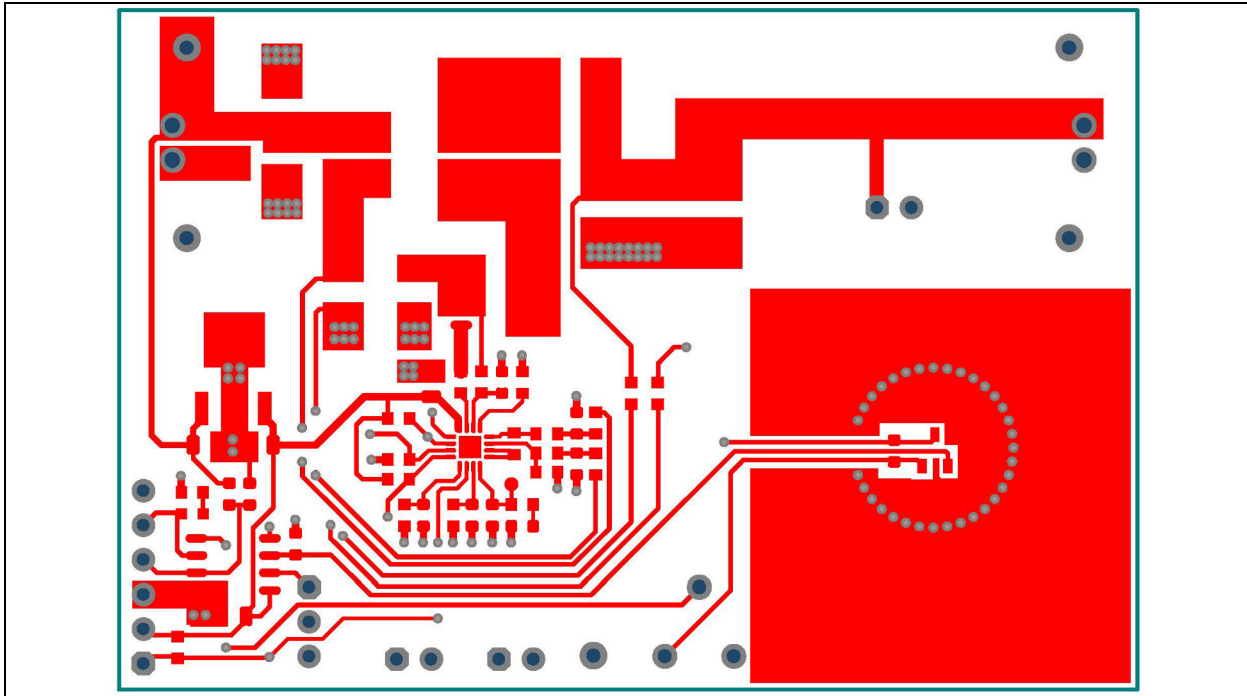
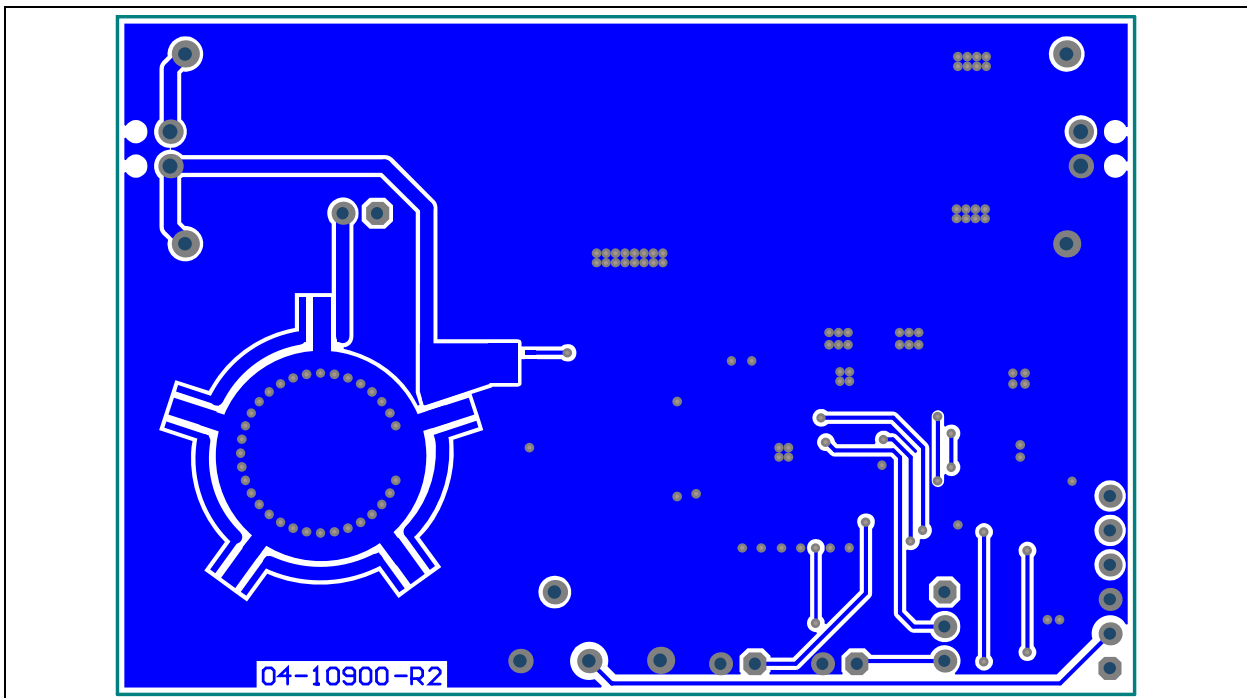
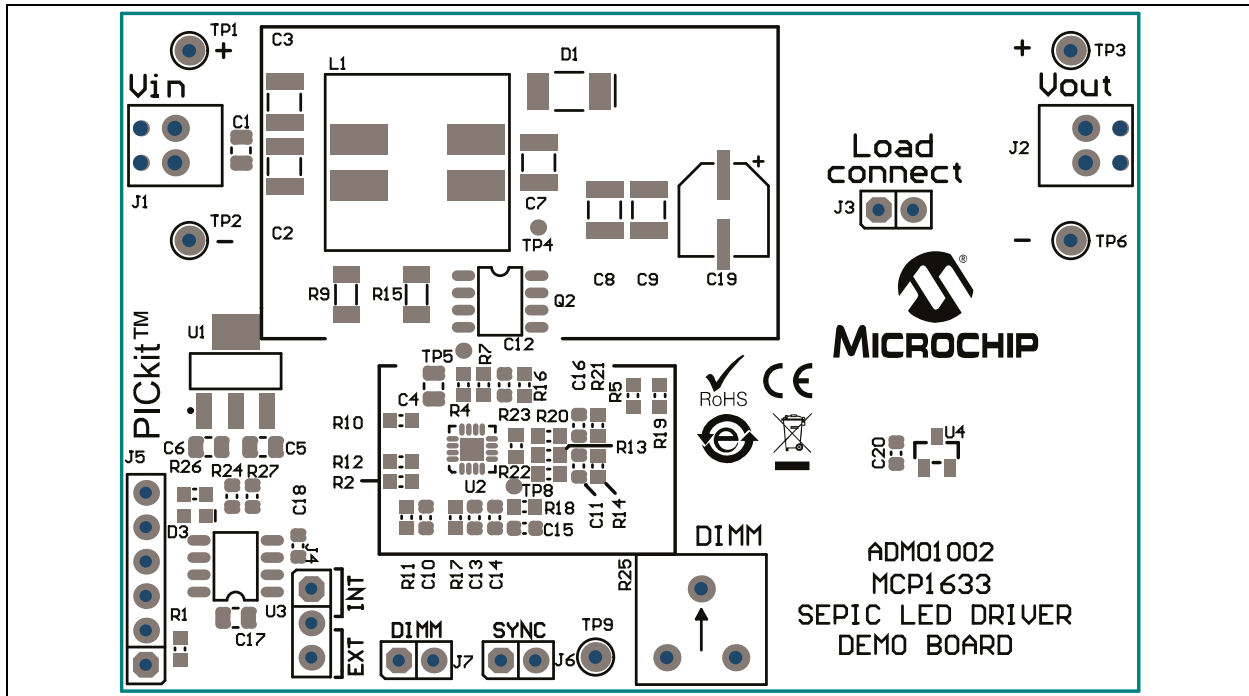

FIGURE 5-6: MCP1633 Demo Board ADM01002 — Top Copper.
FIGURE 5-7: MCP1633 Demo Board ADM01002 — Bottom Copper.
FIGURE 5-8: MCP1633 Demo Board ADM01002 — Top Silk.
- Added Figure 5-6, Figure 5-7 and Figure 5-8 to Section 5.3, Layout Recommendations.